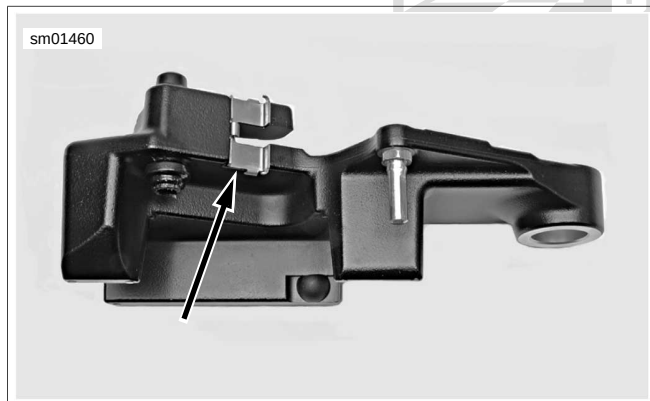

Figure 2-109. Retainer Clip
- See Figure 2-109. Before installing caliper, make sure that retainer clip is properly installed on mounting bracket.